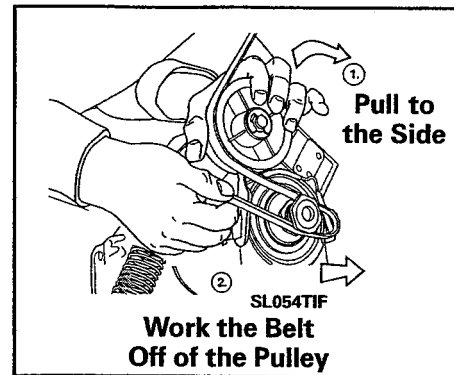

Figure 2-80
5. Grasp the idler pulley in left hand, pull idler upward and to the left. **Note: There is a built-in stop to prevent overstressing of the idler arm spring.** Slip belt off the motor pulley (Figure 2-80).